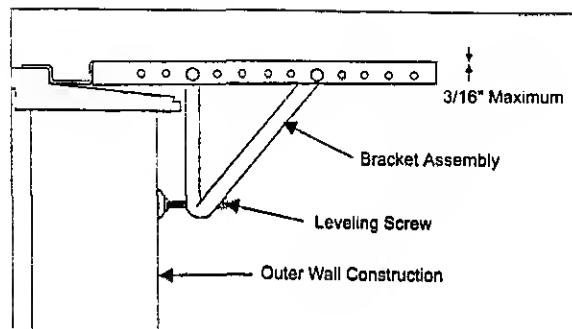

Fig. 16
C For proper condensation run-off it will be necessary to adjust the angle/pitch of the window brackets This is accomplished by adjusting the distance of the leveling screw on the outer wall The maximum angle/pitch should not exceed more than 3/16" See (Fig. 16)
C. Check to make sure that the cabinet is slanted slightly downward on the outside. If necessary, re-adjust support bracket as shown in (Fig. 16)